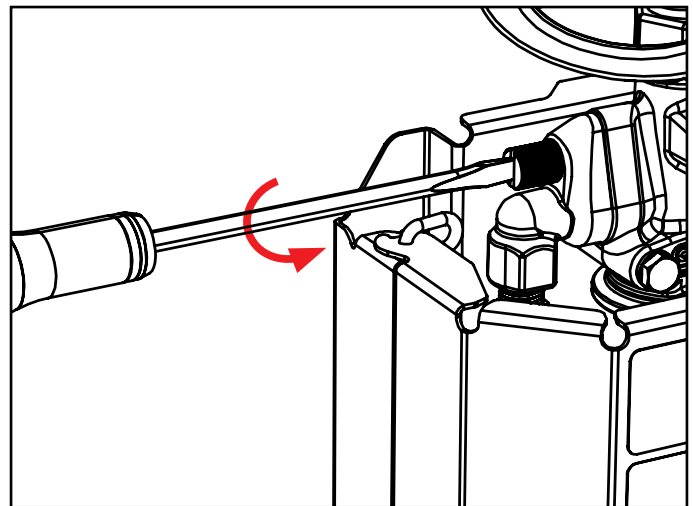

Fig. 9.2: Loosening thumb screw on elbow (chemical inlet)
3. Loosen the thumb screw on the elbow by hand or using a flathead screwdriver. [Fig 9.2]